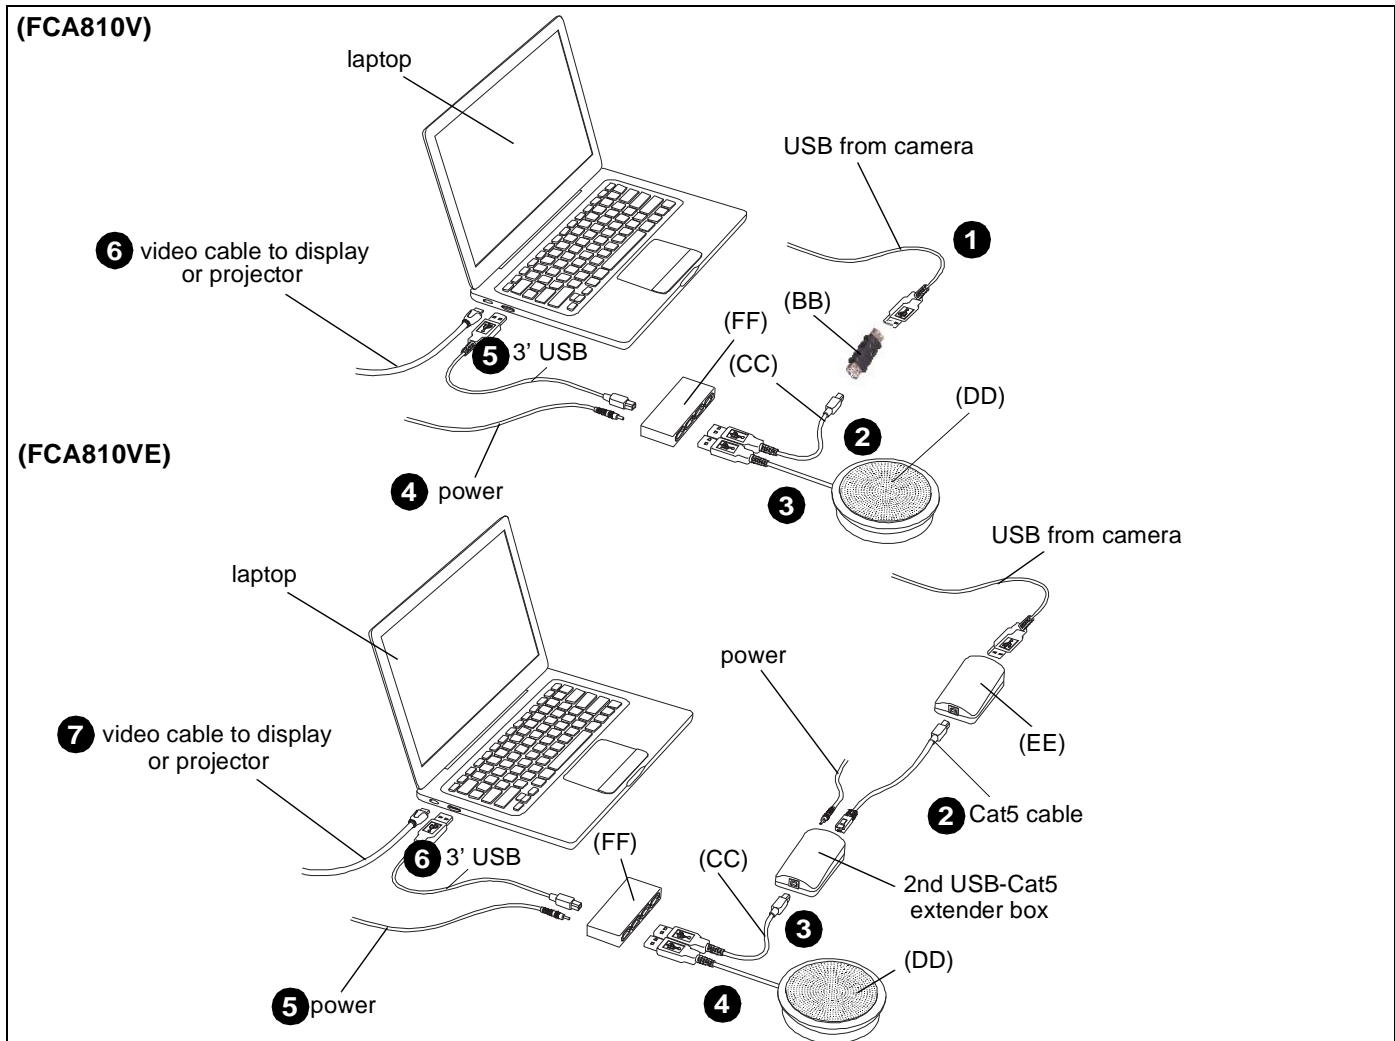

Figure 35
1. Connect camera to USB gender changer (BB) using USB cable supplied with camera. (See Figure 35)
2. Connect USB gender changer (BB) to 4-port USB hub (FF) using 10' USB cable (CC). (See Figure 35)
3. Connect speaker phone (DD) to 4-port USB hub (FF) using USB cable supplied with speaker phone. (See Figure 35)
4. Plug in 4-port USB hub (FF) to power source. (See Figure 35)
5. Connect 4-port USB hub (FF) to computer using USB cable included with hub. (See Figure 35)
6. Connect computer to display or projector. (See Figure 35)
7. Verify the correct audio and video sources are selected in computer's settings (PC) or preferences (Mac). The camera will show up as "Logitech Webcam C930e."
1. Connect camera to USB extender box (EE) using USB cable supplied with camera. (See Figure 35)
2. Connect USB extender box (EE) to second USB extender box using CAT5 cable (not included). (See Figure 35)
3. Connect second USB extender box to 4-port USB hub (FF) using USB cable (CC). (See Figure 35)
4. Connect speaker phone (DD) to 4-port USB hub (FF) using USB cable supplied with speaker phone (DD). (See Figure 35)
5. Plug in 4-port USB hub (FF) to power source. (See Figure 35)
6. Connect 4-port USB hub (FF) to computer using USB cable included with hub. (See Figure 35)
7. Connect computer to display or projector. (See Figure 35)
8. Verify the correct audio and video sources are selected in computer's settings (PC) or preferences (Mac). The camera will show up as "Logitech Webcam C930e."